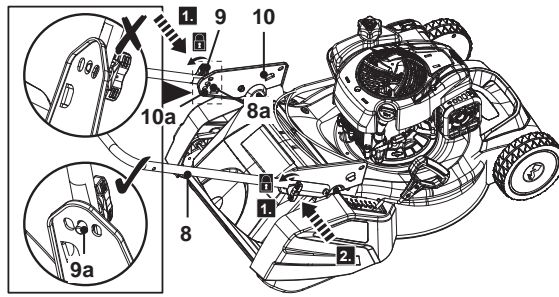

Fig. 2
3. Align the mounting holes (8a, 10a) of the lower handle bar (8) with the two handle brackets (10), then turn the two locking knobs (9) 90° clockwise (Fig. 2, step 1).
4. If necessary, press the locking knob (9) to make sure that the auto-tension pin (9a) passes through the mounting holes (8a, 10a) of the lower handle bar (8) and handle bracket (10) on both sides (Fig. 2, step 2).
**NOTE:** There are three mounting holes (10a) in the handle brackets (10). Ensure that the lower handle bar (8) is assembled on the same height level on both sides of the handle brackets (10).